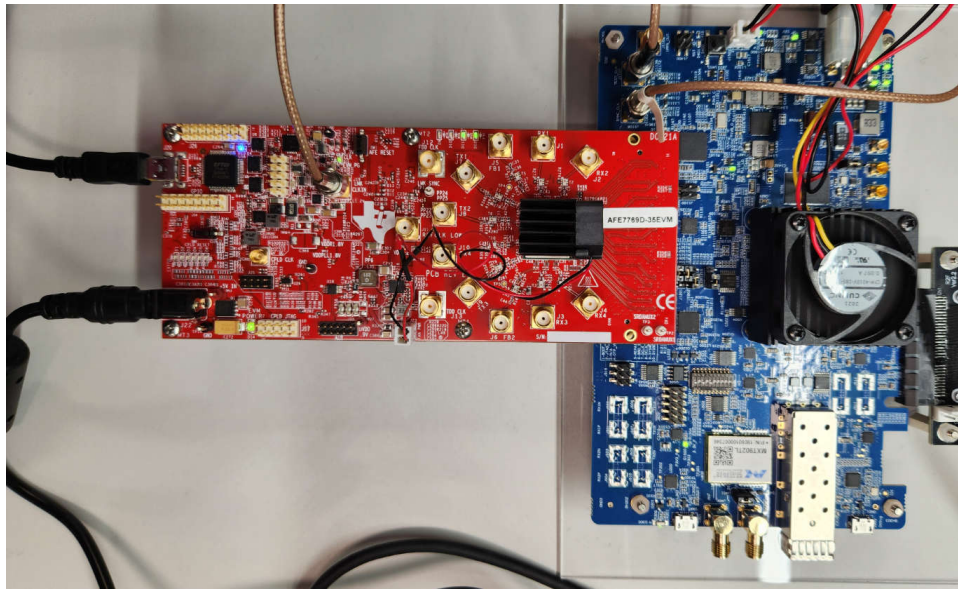

Figure 3-2. Hardware Setup and Connections AFE7769DEVM-RNS802
- Connect the 122.88MHz reference clock (SYNC_CLOCK) from the RNS802 (J1106) to the LMK_CLKIN (J19) of the AFE7769DEVM, as shown in Figure 3-2.